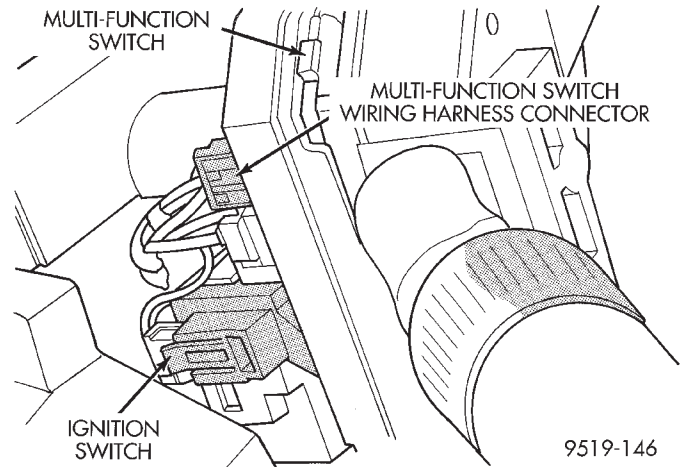
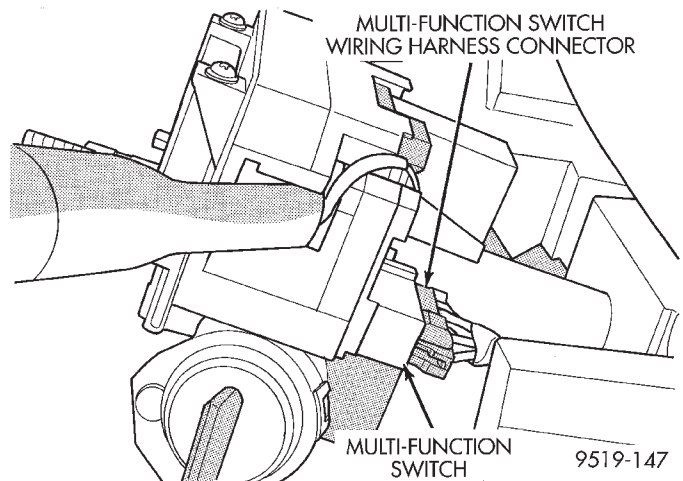
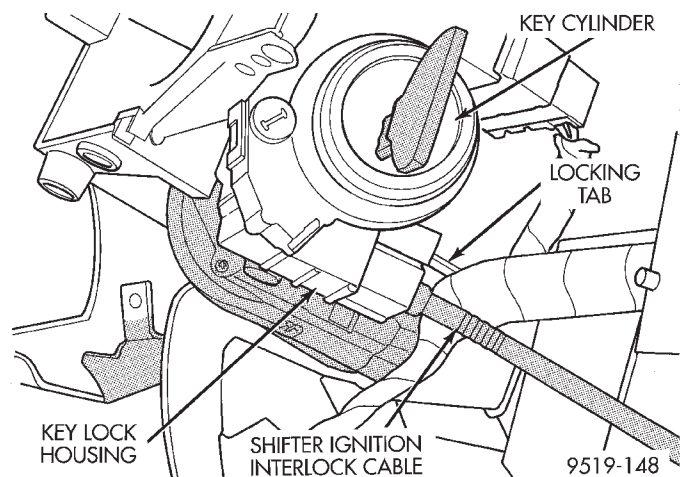
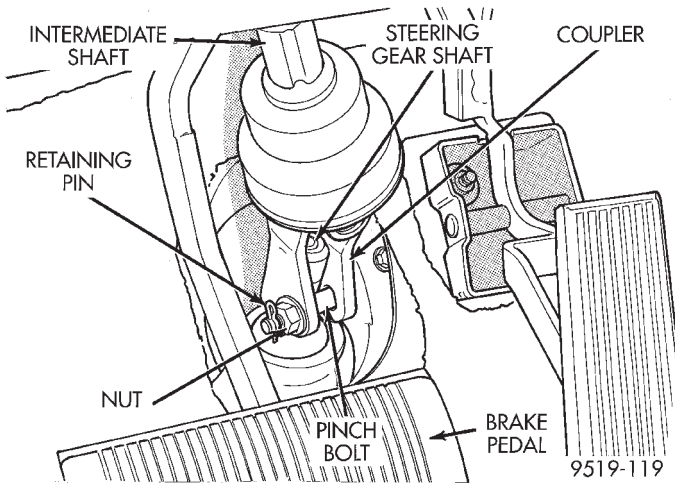

Fig. 13 Wiring Harness Connections To Ignition And Multi-Function Switch
Fig. 14 Wiring Harness Connection To Multi-Function Switch
Fig. 15 Shifter/Ignition Cable At Lock Cylinder Housing
Fig. 16 Intermediate Shaft Coupler To Steering Gear Shaft
(19) Remove the multi and 2 wire wiring harness connectors from the back of the ignition switch (Fig. 13). Then remove the 2 wiring harness connector from the multi function switch (Fig. 13) and (Fig. 14).
(20) If vehicle is equipped with an automatic transaxle, rotate the key cylinder to the off position. Depress locking tab on shifter/ignition interlock cable (Fig. 15) and remove the cable from the key lock housing.
(21) Remove routing clip holding wiring harness to jacket of steering column.
(22) Remove retaining pin in steering column coupler pinch bolt (Fig. 16). Loosen the upper to lower
steering coupler pinch bolt retaining nut and remove pinch bolt from steering coupler (Fig. 16). **Pinch**
steering gear input shaft. Install a **new** pinch bolt in the coupler. Tighten the coupler pinch bolt nut to a torque of 27 N·m (240 in. lbs.). **Be sure to install steering coupler pinch bolt retaining pin (Fig. 16).**
(5) If vehicle is equipped with an automatic transaxle, install the shifter/ignition interlock cable (Fig. 15) in the lock cylinder housing.
(6) Route wiring harness on steering column and install routing clip in bottom of steering column jacket.
(7) Install multi and 2 wire wiring harness connectors on the back of the ignition switch (Fig. 13). Then install the 2 wiring harness connectors on the multi function switch (Fig. 13) and (Fig. 14).